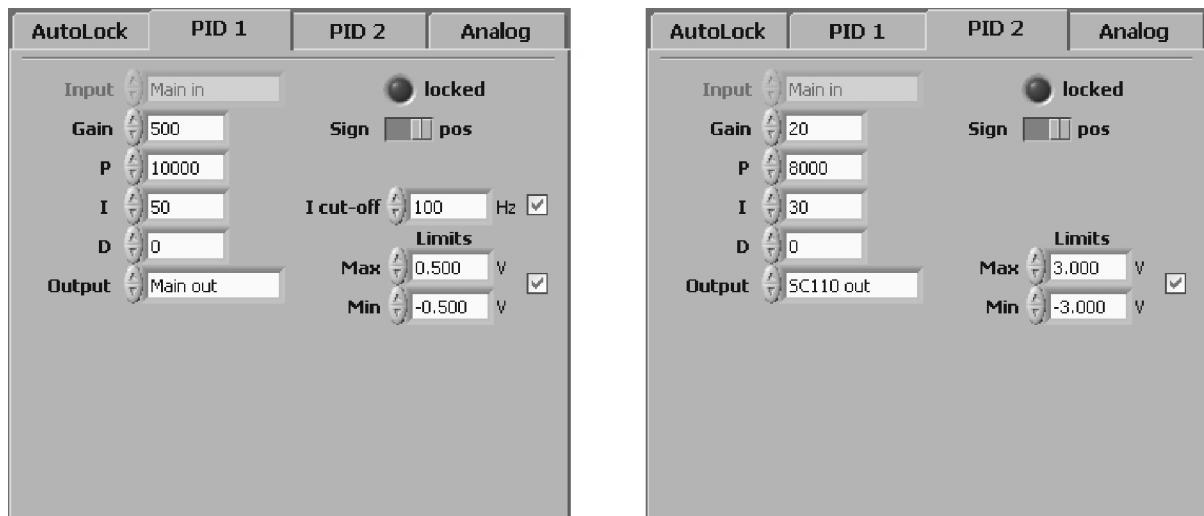

Figure 42 PID Setup for Locking to the Slope of a Doppler-free Rb Peak
17. To configure the PID controllers, select the **PID 1/PID 2** tab (see Figure 11 and Figure 13) to access the corresponding parameters (see Figure 42). A valid strategy is to first implement PID 2 for initial locking (setting the Gain of PID 1 to zero) and then add PID 1 to improve the lock at higher frequencies. In AutoLock mode the input channel of the PIDs is defined by the AutoLock input. **PID 1** is used for the high frequency feedback, therefore its output channel is <Main out> which is connected to the modulation input of the laser. **PID 2** is used for large range, low frequency feedback to the piezo. To prevent the controllers from mutual interaction, the **PID 1** features an "I cut-off" frequency. The "I cut-off" frequency defines the corner frequency below which the integral gain of the controller is limited. A reasonable choice is in the order of 100 Hz.
18. The values of the gain parameters for the PIDs shown in Figure 42 are set in the corresponding tabs. Their settings depend on the slope of the error signal and the actuator response. For the given setup the error signal amplitude should be on the order of 100 mV_{pp}, see above for input offset and gain. In most cases the low frequency feedback of **PID 2** is sufficient to achieve a first lock¹¹. It is advisable to start with conservative gain settings. To find the correct settings of the sign for each PID controller, please see Paragraph 9.4. Once locking is accomplished the parameters can be optimized (see Paragraph 9.3).